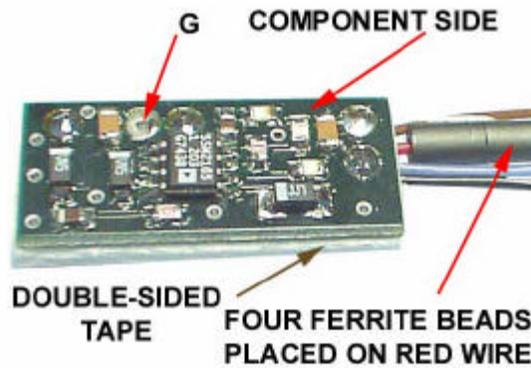
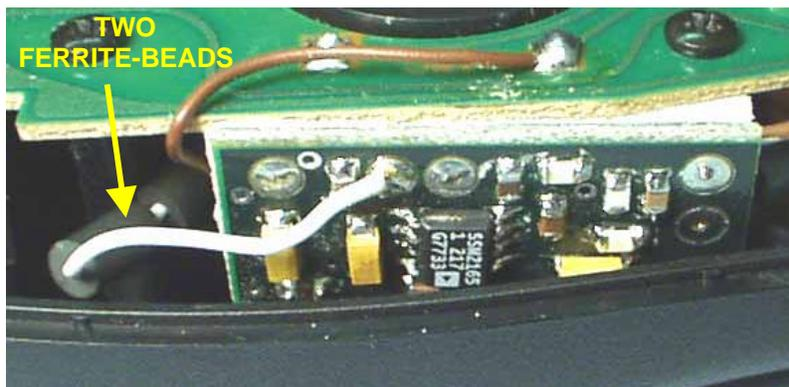

Figure 10.
Figure 13.
- 10. Figure 10 shows the One BIG Punch unit. First, remove the paper from the exposed side of the double-sided tape identified in Fig. 10 and keep the exposed tape from touching anything until the next step. The four ferrite-beads will be placed on the red wire in Step 12.
- 14. Place two ferrite-beads on the wire (typically white) removed in Step 3 and tack solder it, as illustrated in Fig.13, to the Pad G (see Fig. 10) located on the One BIG Punch PC Board. DO NOT overheat this connection. **WARNING:** Be very careful not to short Pad G to the surrounding ground plane. The separation between them is only 0.01". Before you apply power to the OBP, measure the resistance from Pad G to ground. If it is essentially zero, then correct the installation of the white wire. The resistance of the microphone element is typically in the range of 200 ohms.